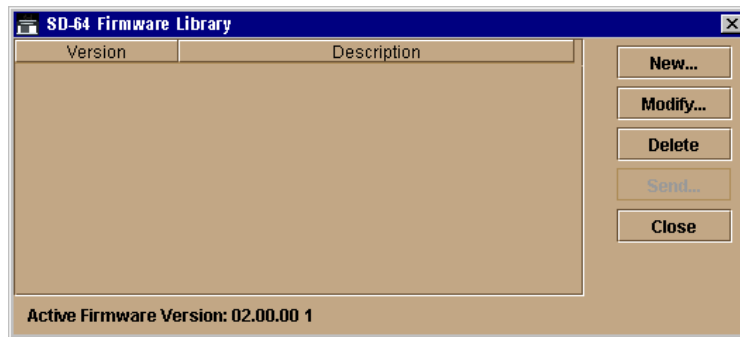

Figure 3-25: Firmware Library Dialog Box
3. At the navigation control panel, select the Firmware Library option from the Maintenance icon. The SD-64 Firmware Library dialog box (Figure 3-25) displays.